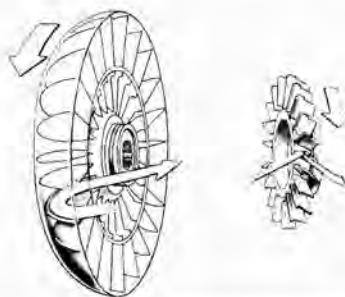

Fig. 7 Torus Operation—Step 2
Step 2. After the oil has acted on the driven member the oil is forced to the torque multiplier (Fig. 7).